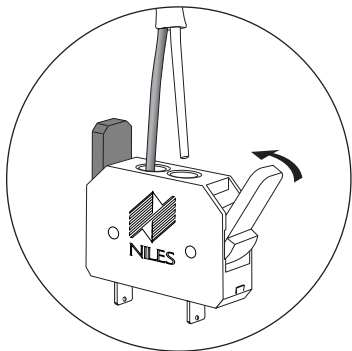

Figure 19
3. Insert one unstripped wire fully into the black and one into the red terminal. Pay attention to the markings on the wire. Each speaker must be connected to the amplifier in the same way. Squeeze the red and black levers until they click signifying that they have locked into the wire. Check to make sure that the knife assembly inside the no strip connector has properly pierced the wire (See Figure 19).